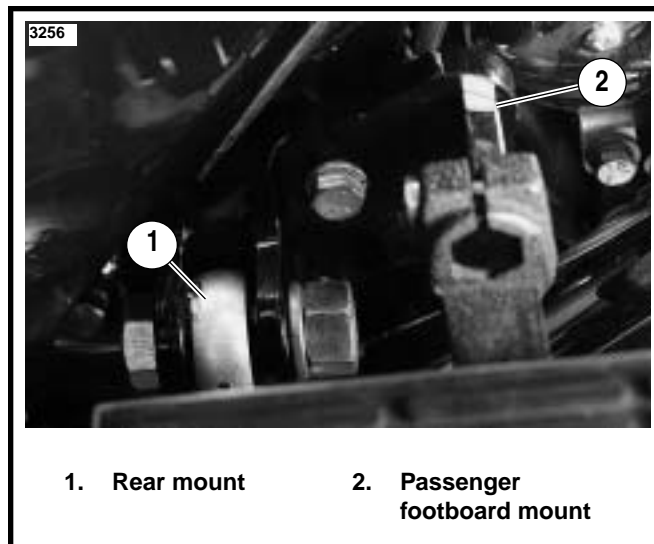

Figure 8. Rear Mount Installed
25. Insert bolt (20) with lockwasher (22) through mount (1) and block. Tighten the three mounting bolts to 34-42 ft-lbs torque. Figure 8 shows rear mount installed.